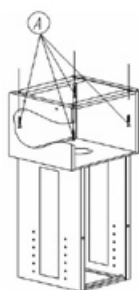

Fig. 7
2. Drill holes, fix the ceiling holder using supplied wall plugs and screws (Fig. 7).